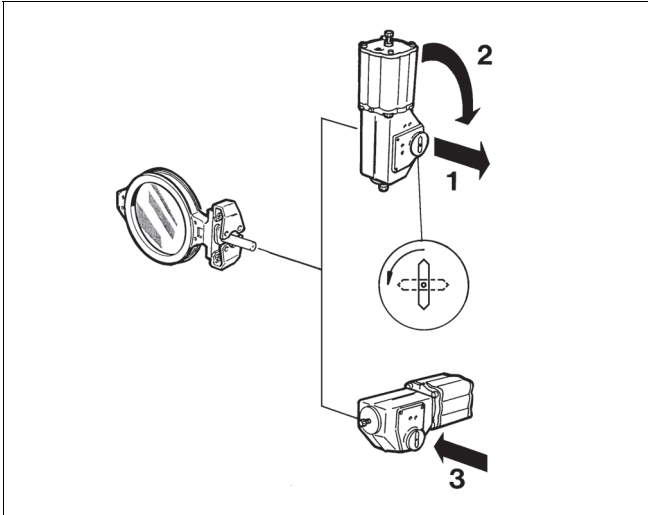

Fig. 19 Changing the mounting position
- Detach the actuator using a suitable extractor. The correct tool can be ordered from the manufacturer (see Fig. 19).